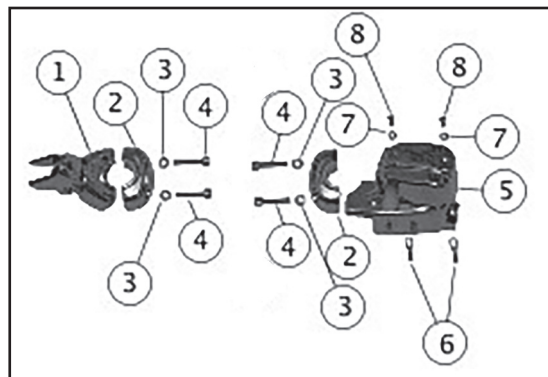

Figure 1. Kit Components
2. See Figure 1. Install the new chrome clutch bracket (1) using a clamp half (2), washers (3) and screws (4) from the kit. Tighten the screws to 70-80 in-lbs (7.9-9.0 Nm).
5. See Figure 1. Install the new chrome clamp half (2) on the front brake master cylinder assembly using washers (3) and screws (4) from the kit. Tighten the screws to 70-80 in-lbs (7.9-9.0 Nm).
Table 1. Figure 1. Kit Contents